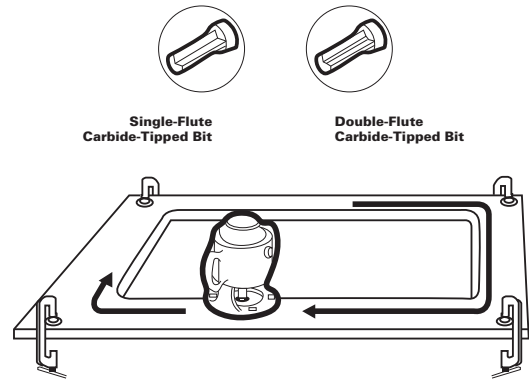

Figure C-3
- Make the cut-out using a 1400W-2200W router with a 30 mm template guide and a 10 mm TCT straight single-flute router cutter (Figure C-3).